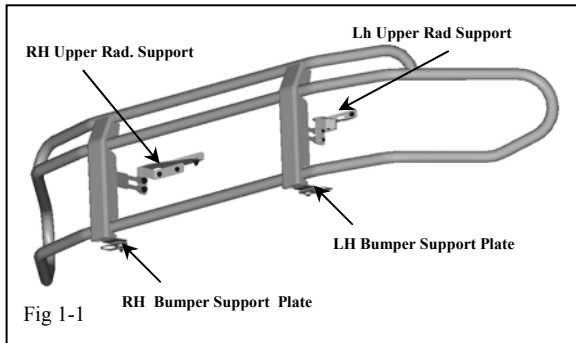

Fig 1-1
- (b) Verify kit contents and inspect brush guard for damage. (Fig. 1-1)